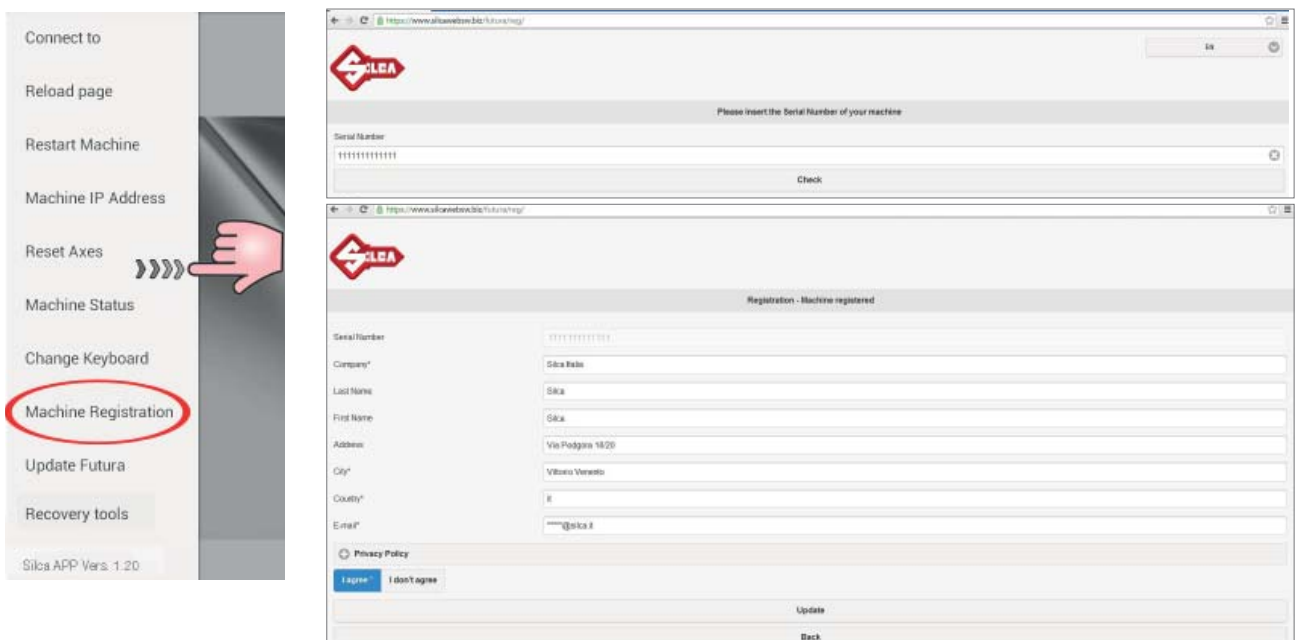

Fig. 17
- Tap “Machine registration” (Fig. 17).